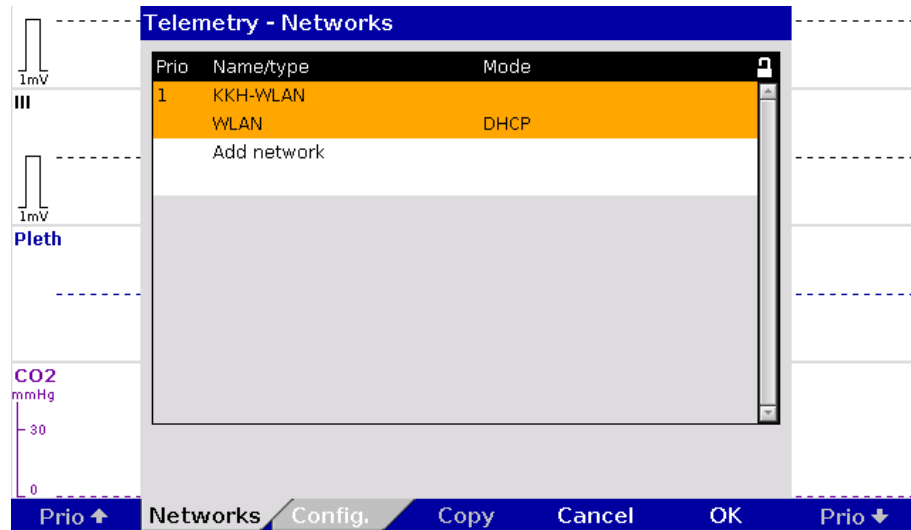

Fig. 9-4 Add network
- Note** Already configured WLAN networks can be copied with the softkey [Copy] (see Fig. 9-4) and then adapted to save time with the configuration.